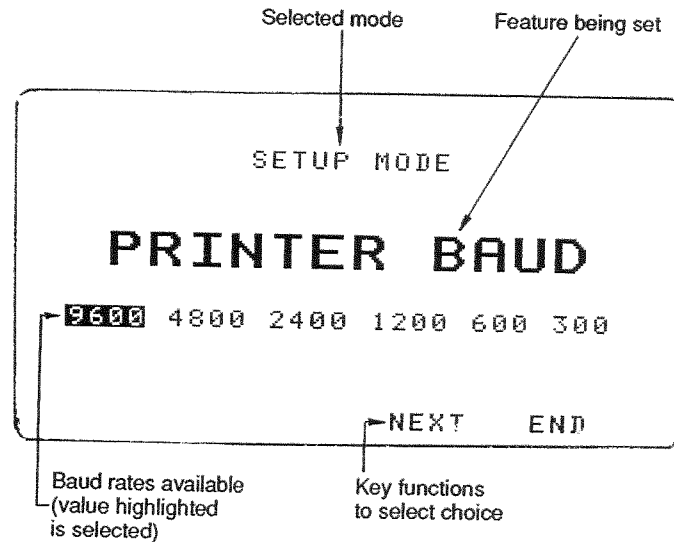

Figure 20 'PRINTER BAUD' screen from the 'SETUP MODE'
1. From the 'SETUP STATUS' screen press the 'arrow head' key to select the 'PRINTER BAUD' option. Press the 'CHANGE' key to move to the 'PRINTER BAUD' screen as shown in figure 20.
1. The procedure for setting this option is exactly the same as for setting the Baud rate for a printer. From the 'SETUP STATUS' screen press the 'arrow head' key to select the 'PC BAUD' option. Press the 'CHANGE' key to move to the 'PC BAUD' screen (the screen appears similar to that shown in figure 20) and make a choice from the Baud rates, 9600 to 300, available using the 'NEXT' key.